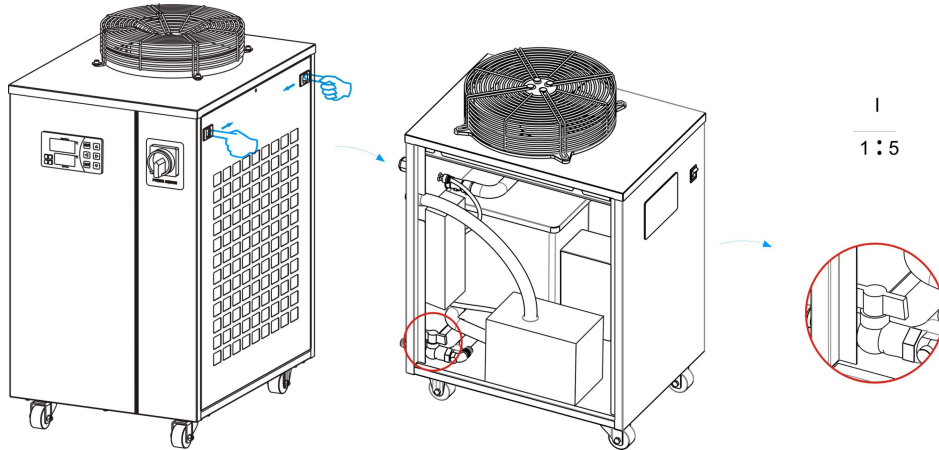

Figure 6: Drain valve position diagram
(4) Drain valve position, as shown in Figure 6.